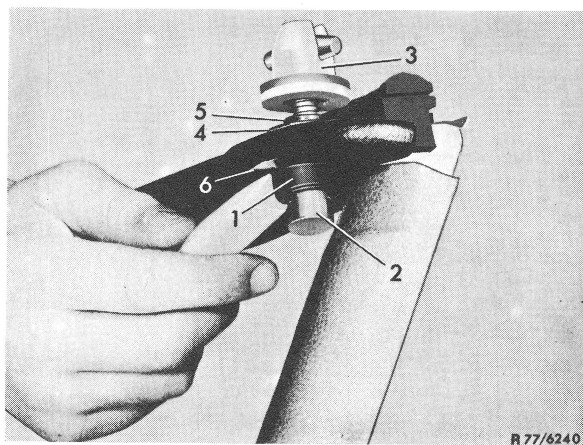

Figure 1
- 2 Push closing cap (1) down with plastic wedge.
- 3 Remove closing cap and closing top (2) (Fig. 1).